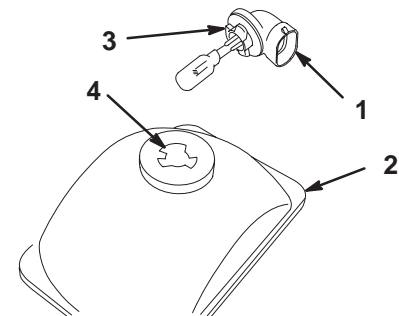

Figure 32
2. Reach beneath the dash and rotate the lamp assembly 1/4 turn counterclockwise (Fig. 32). Pull the lamp assembly out of the reflector.
5. Reach beneath the dash and align the three tabs on the lamp assembly with the slots in the reflector (Fig. 32). Insert the lamp assembly into the reflector and rotate it 1/4 turn clockwise until it stops.